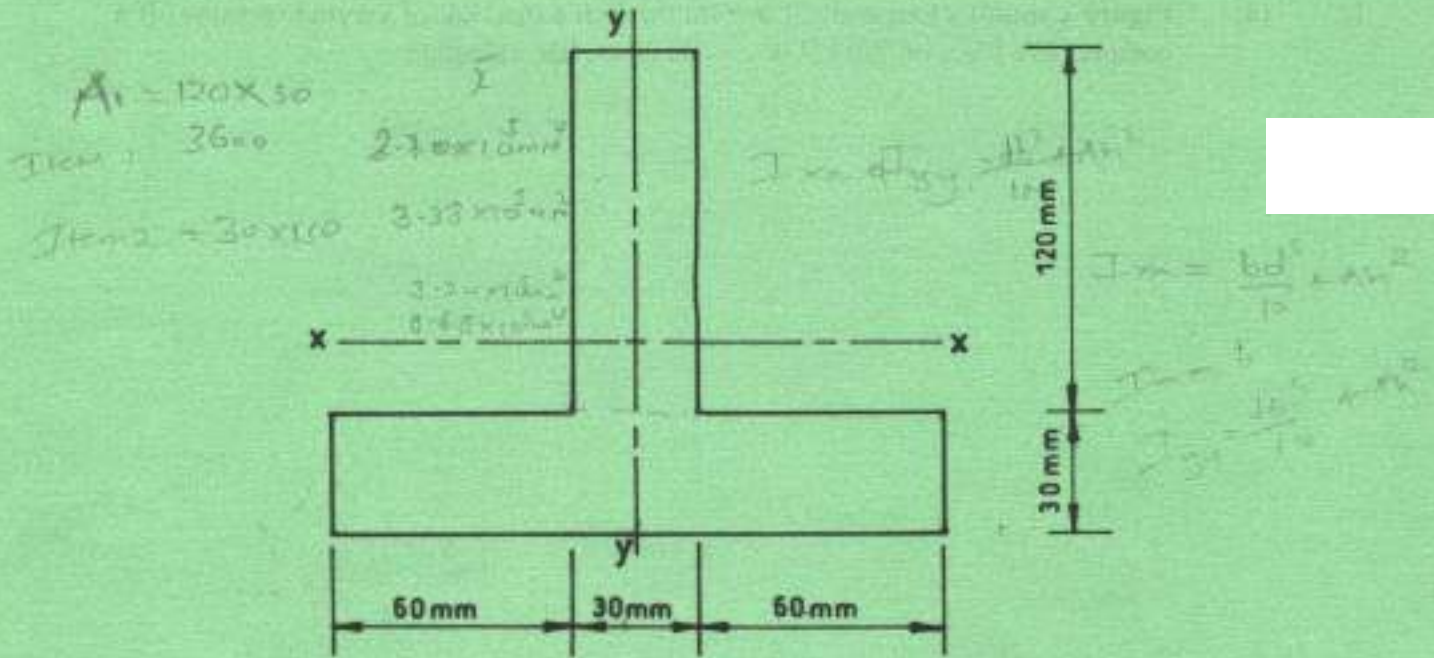

Fig. 2
2. (a) Figure 2 shows a cross section of a beam. Calculate second moment of area about both centroidal axes. (12 marks)